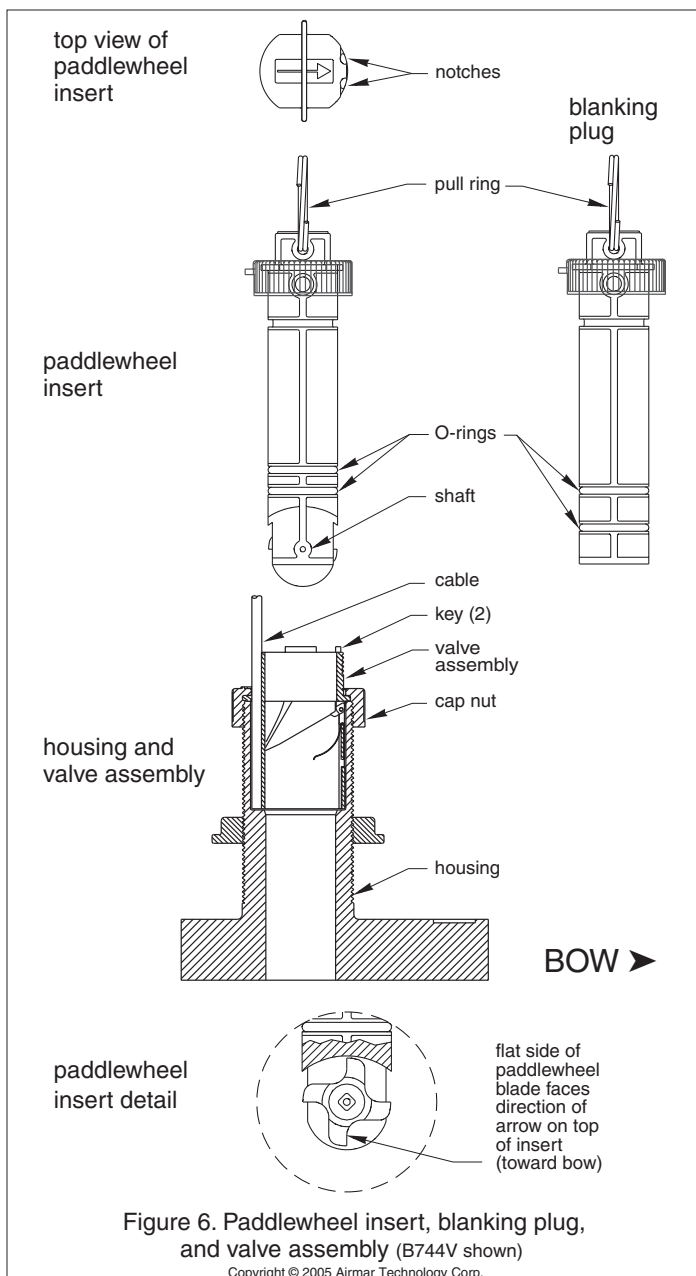

Figure 6. Paddlewheel insert, blanking plug, and valve assembly (B744V shown)
1. Slide the *insert* nut along the cable until it rests on the top of the paddlewheel insert. Attach one pull ring to the paddlewheel insert, capturing the insert nut (see Figure 6). Attach the second pull ring to the blanking plug, capturing the remaining insert nut.
The multisensor incorporates a self-closing valve which minimizes the flow of water into the vessel when the paddlewheel insert is removed. The curved flap valve is activated by both a spring and water pressure. Water pushes the flap valve upward to block the opening, so there is no gush of water into the boat (see Figure 6).
1. On the blanking plug, inspect the O-rings (replace if necessary) and lubricate them with silicone lubricant or petroleum jelly (Vaseline®) (see Figure 6).
4. Slide the blanking plug into the housing. Seat it into place with a pushing twisting motion until the keys fit into the notches (see Figure 6). Screw the insert nut in place and **HAND-TIGHTEN** only. *Do not* over tighten. Reattach the safety wire (see Figure 7).
1. Using the new paddlewheel shaft, push out the old shaft about 6 mm (1/4"). With pliers, remove the old shaft (see Figure 6).
3. Separate the paddlewheel insert from the valve assembly by unscrewing the insert nut (see Figure 6). Grasp the pull ring and pull slowly upward.
5. To reinstall the valve assembly, inspect the O-rings on the paddlewheel insert (replace if necessary) and lubricate them with silicone lubricant or petroleum jelly (Vaseline®) (see Figure 6)